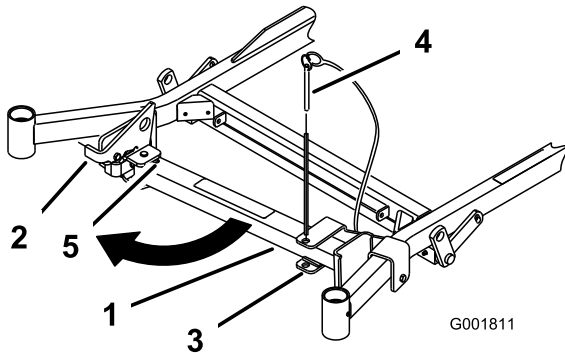
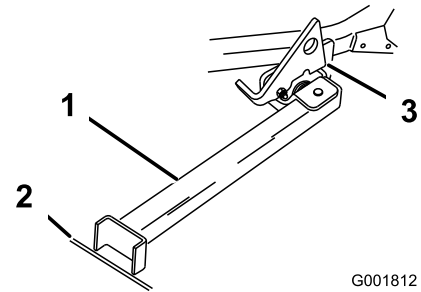

Figure 27
Figure 28
2. Remove the bracket pin (Figure 27).
3. Raise the latch. Swing the stand foot out front and slide stand toward machine, into the bottom of slot (Figure 27 and Figure 28).
4. Set the foot of stand on the ground and rest the latch on the pivot tab (Figure 28).
**Note:** For best results, place the foot of stand into seams in sidewalks or into the turf (Figure 28).
6. Drive onto the stand. Stop when the latch drops over the tab into the locked position (Figure 28). Once onto the stand, engage the parking brake and turn off the engine.
5. Return the stand to its rest position (Figure 27).